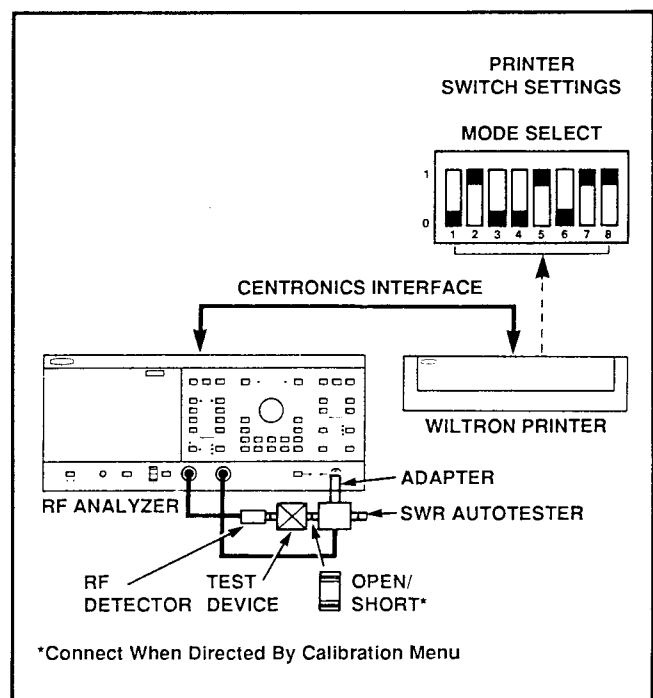

Figure 3-24. Test Setup for Transmission and Return Loss
How to make a transmission and return loss measurement is described in Table 3-1; a test setup is shown in Figure 3-24.
1. Connect test equipment per Figure 3-24, except do not connect the test device; turn the printer on.
3. Press the NETWORK ANALYZER CALIBRATION key and follow the directions given in the calibration-cycle sequence of menus. If necessary, refer to Figure 3-9 for an explanation of the menus. After finishing the calibration, connect the test device and RF detector as shown in Figure 3-24.